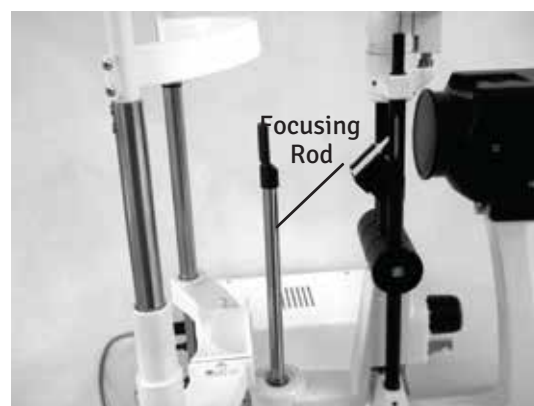

Figure IN-1 Install Focusing Rod
2. Insert the Focusing Rod in the pivot post of the instrument body to make rough PD and focus adjustments. Refer to figure IN-1.